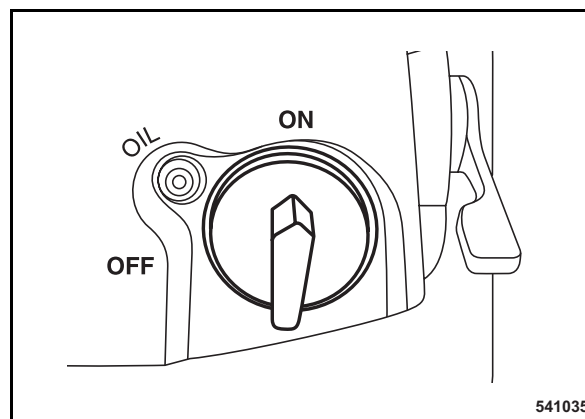

Fig. 12
- Set the engine stop switch (Fig. 12) to position "ON".